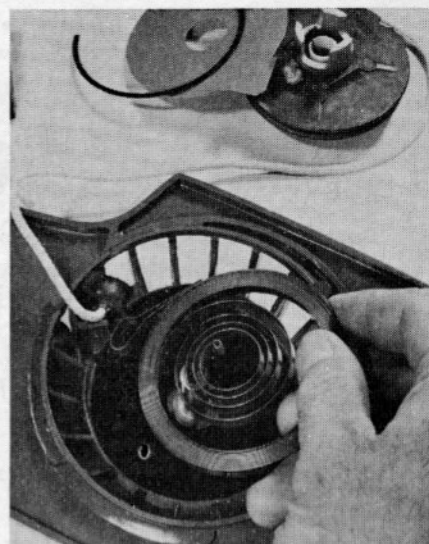

Fig. HL122—Installing rewind spring. Outer (black plastic) spring shield is already installed.
Refer to exploded view in Fig. HL120, HL120A and HL122 for reassembly guide. Install spring dry except for a small amount of Homelite® ALL-TEMP Grease or a lithium base grease on sides of spring. Starter post and plastic sleeve should be lubricated with light oil only. Install black plastic spring shield, spring (as shown in Fig. HL122) and the orange plastic shield on top of spring. If inner loop of spring is not then visible through hole in orange plastic shield, bend inner loop in towards starter post. Install retaining ring (9—Fig. HL120 or HL120A). Late type pulley (24—Fig. HL120) and separate spring lock (23) are used to renew early type pulley (10) with integral spring lock.